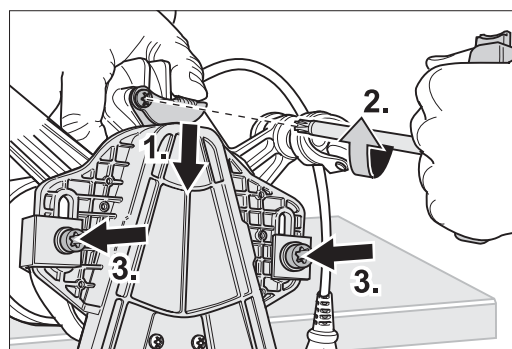

Fig. 29 Hold the FLIP firmly at the suction socket, press on the belt tightener plate and tighten the three screws.
- 5 Grab the FLIP at the suction socket and press the belt tightener plate forward with your thumb at the same time, while using the other hand to retighten the three screws with the universal spanner (Fig. 29).